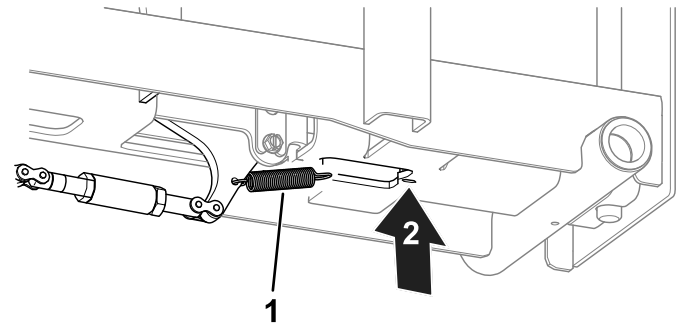

Figure 15
9. Connect the spring to the wheel stop and the ramp bottom (Figure 15).